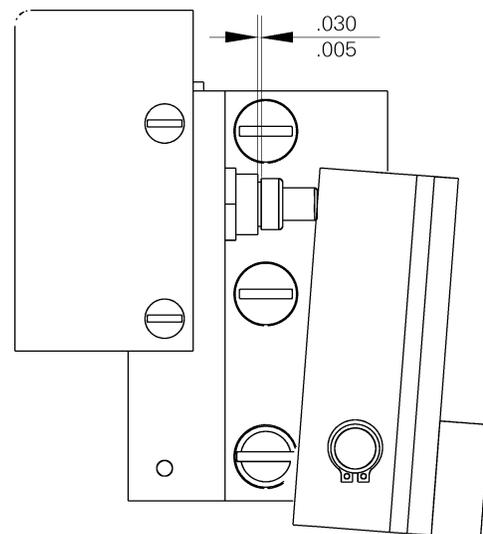

Figure 55. Motor cut-off switch adjustment.
3. Adjust the cut-off switch as illustrated in Figure 55:
3. Adjust the switch as illustrated in Figure 55:
- b. The main stem of the switch should be located between 0.005 and 0.030 inch from the threaded barrel. (See Figure 55.)